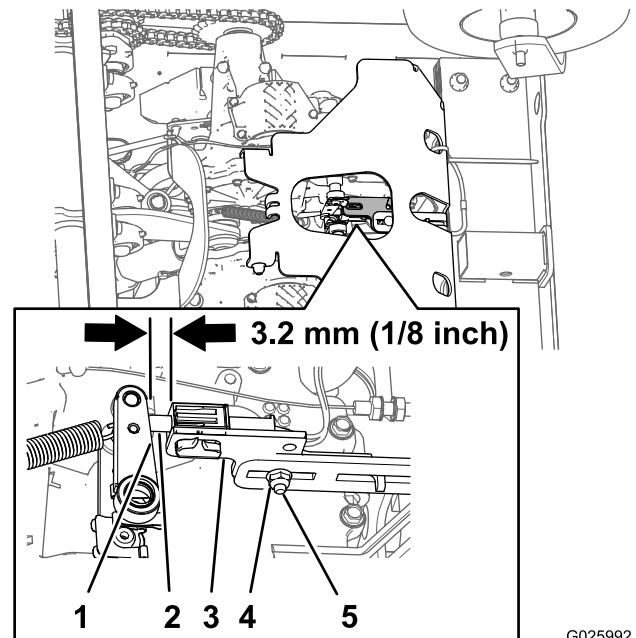

Figure 58
5. Check the distance between the parking brake-switch bracket to the brake arm of the transmission (Figure 58).
- A. Loosen the locknut and carriage bolt securing the parking brake switch bracket (Figure 58).
- B. Adjust the position of the brake-switch bracket until the gap (Figure 58) between the switch bracket and the brake arm is 3.2 mm (1/8 inch)
- C. Tighten the locknut and carriage bolt (Figure 58) securing the brake-switch bracket to 1017 to 1243 N·cm (90 to 110 in-lb).